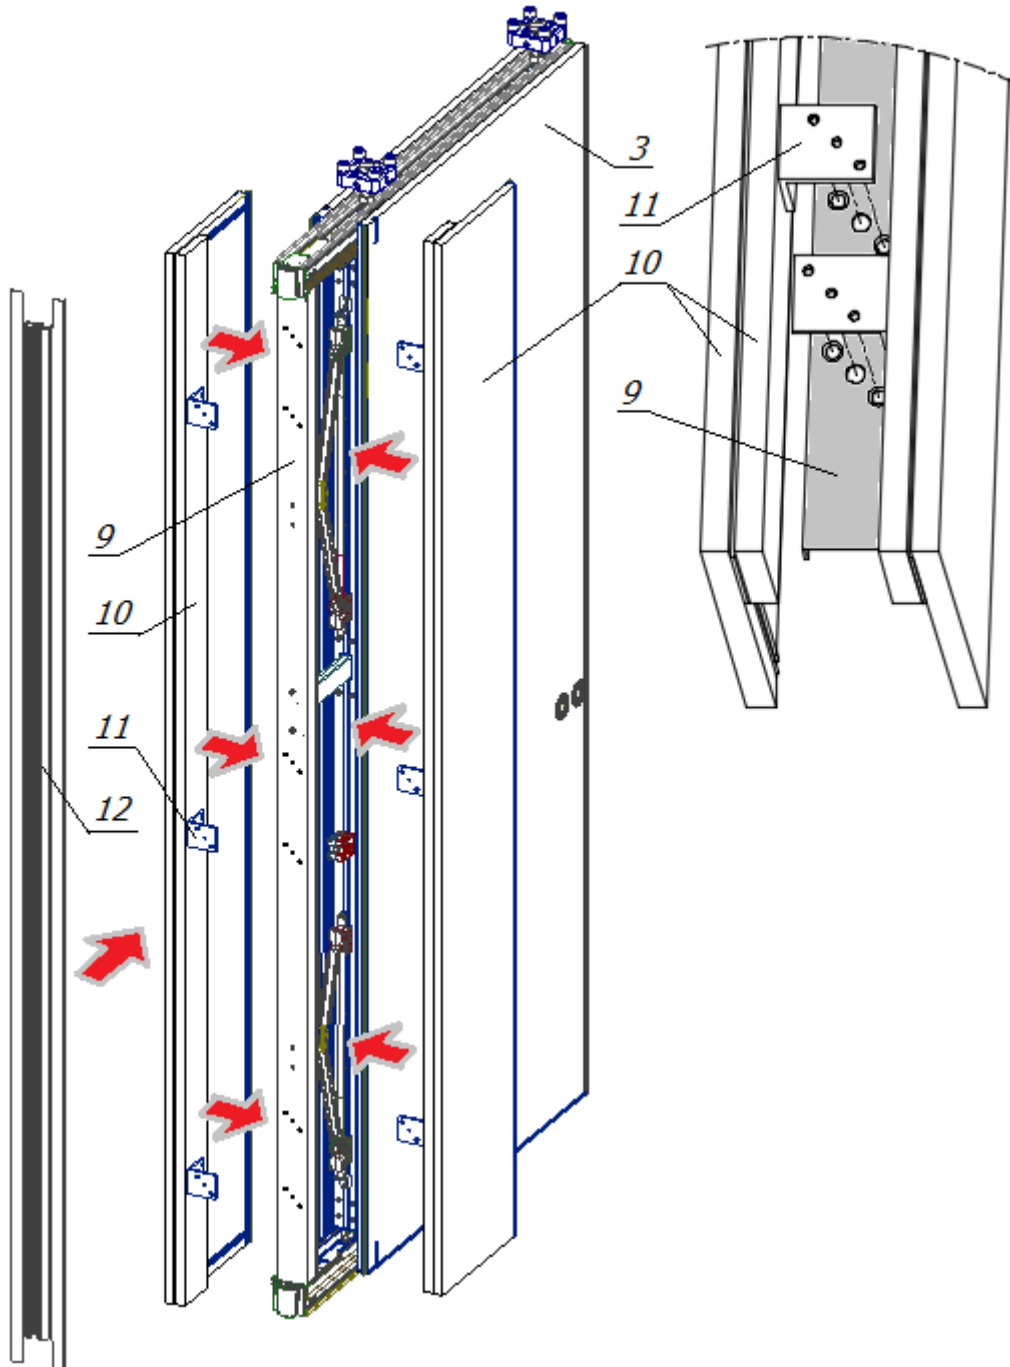

Fig.45. Installation diagram of the plates of the telescopic panel's withdrawable part
Then the plates of the withdrawable part (drawers) are attached to the C-profile (9) which is part of the frame of the telescopic panel, which runs according to the diagram below (Fig.45).
Check that the **CORRECT** part of the sliding plates (10) has been selected for the assembly of the "drawer" and screw it through the mounting angles (11) according to the holes made in the C-profile (9 in Fig. 45!) using the M6x20 screw (with rivet nuts in the C-profile)
The last step is to fasten the cover plate (12 in Fig.45) from the side of the "drawer" with M6x20 screws in the threaded holes on the angle bars (11).